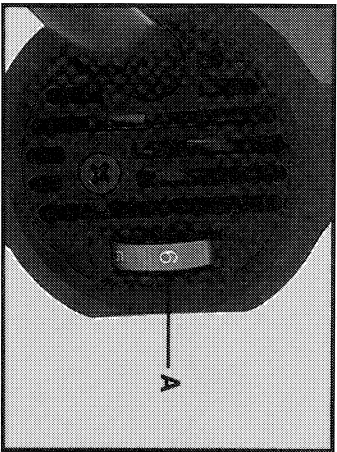

Fig. 1A
Speed is adjusted by turning thumbwheel (A), Fig. 1A. Thumbwheel position #1 provides the slowest operating speed (2500 OPM) and position #6 the fastest (6000 OPM). Speed may be changed while motor is running or while it is stopped.